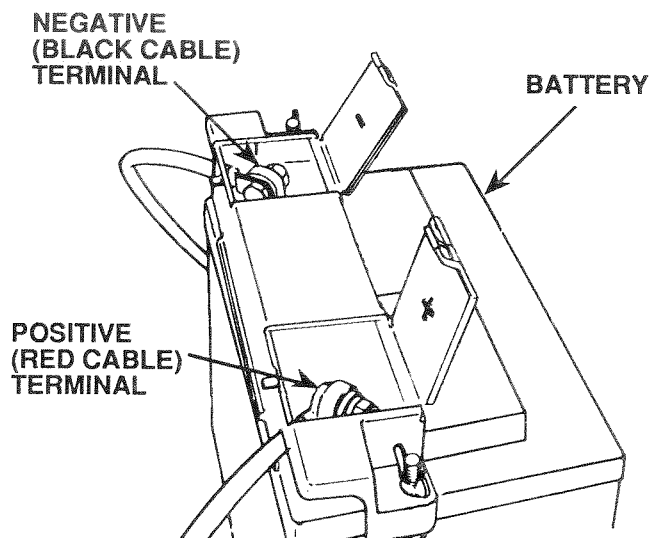

FIGURE 24
- a. Connect each end of the **RED** Cable to the **POSITIVE (+)** Terminals of each Battery (taking care not to short against Chassis). (Fig. 24).